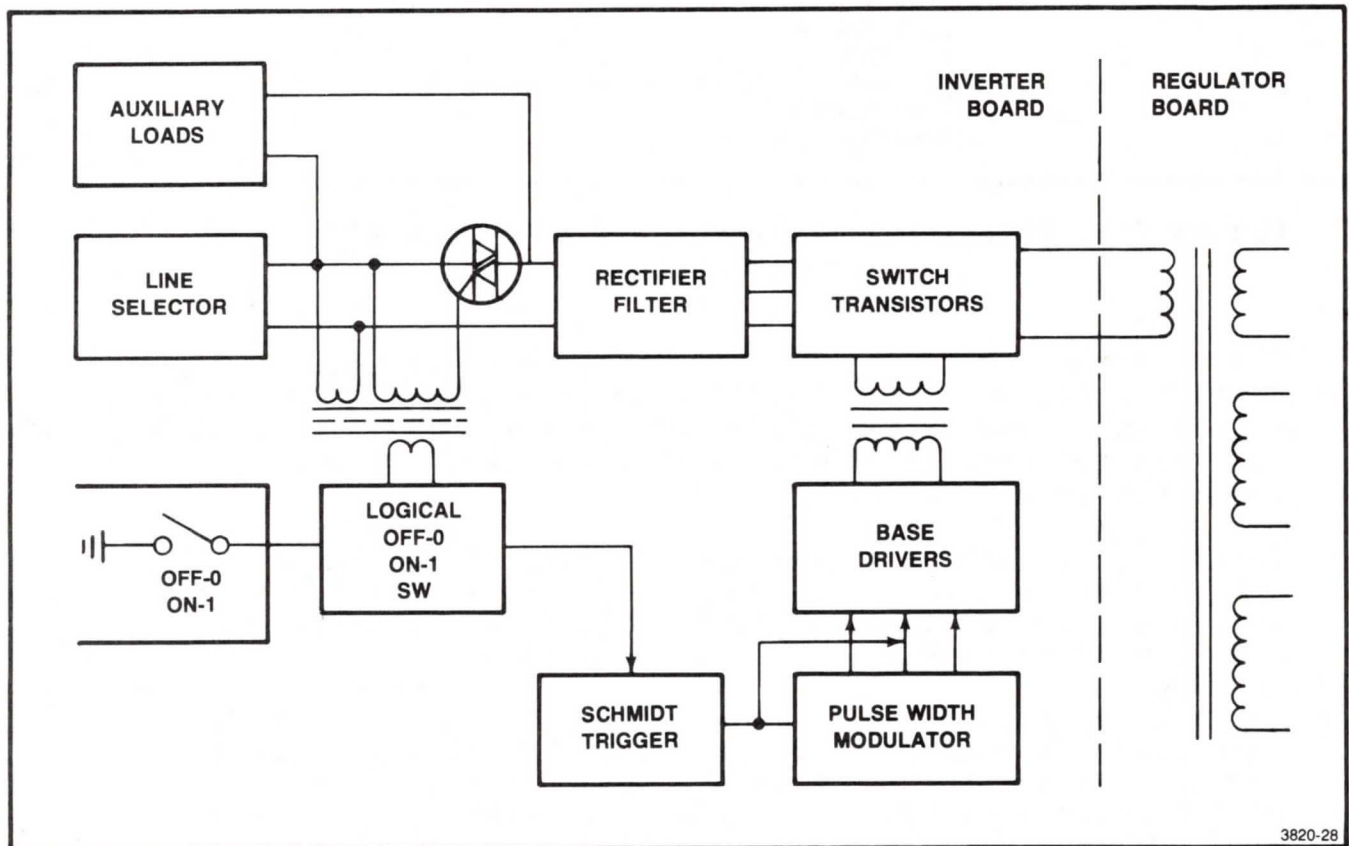

Figure 7-2. Functional Block Diagram of Inverter Board.
Figure 7-2 shows that the Inverter board contains:
**Switch Off.** Refer to Figure 7-2. When OFF-1/ON-0 is high, the transistors are conducting and cause a low reflected impedance to appear in the turn-on transformer primary by placing a virtual short on the secondary. The majority of the voltage on the primary of the turn-on transformer is dropped across the resistor in series with the line voltage and the primary winding. An insufficient amount of voltage is developed to enable the triac gate.